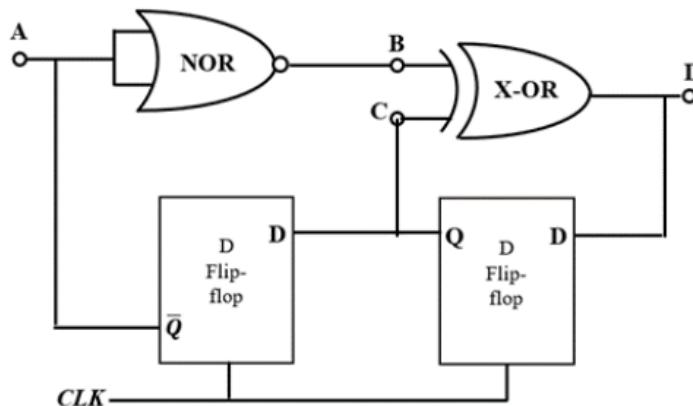

Fig. 5.10
10. Neglecting the delays due to the logic gates in the circuit shown in Fig. 5.10, the decimal equivalent of the binary sequence [ABCD] of initial logic states, which will not change with clock, is _____.